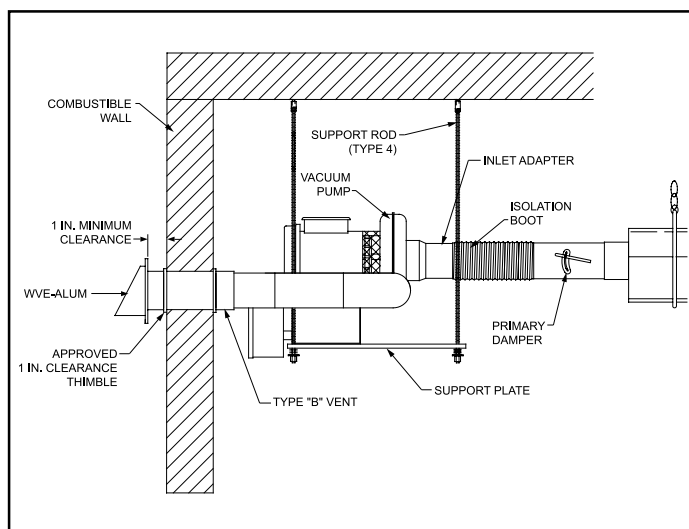

Figure 3-19
- Horizontal venting must be terminated using a vent cap with flapper (HLV-WVE) and have a 1 inch clearance from combustible walls (see Figure 3-19). Through the wall venting shall **not** terminate over public walkways and **must** be at least 4 ft. below, 4 ft. horizontally from, or 1 ft. above any door, window or gravity air inlet into any building.